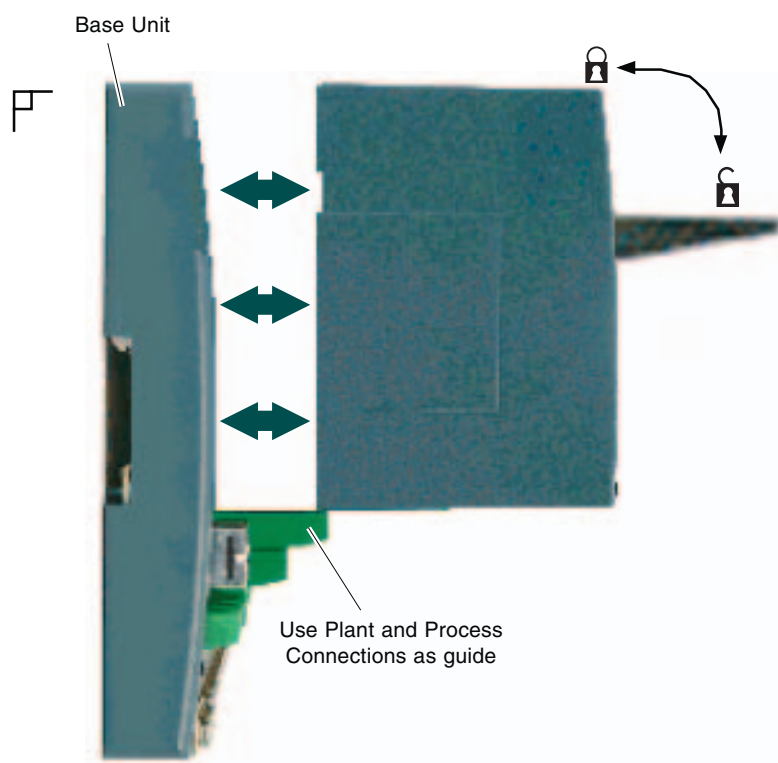

Figure 2.3.4 Module fitting/removal
1. Pull the Module retaining lever forwards into the unlocked position (🔓), as shown in Figure 2.3.4.